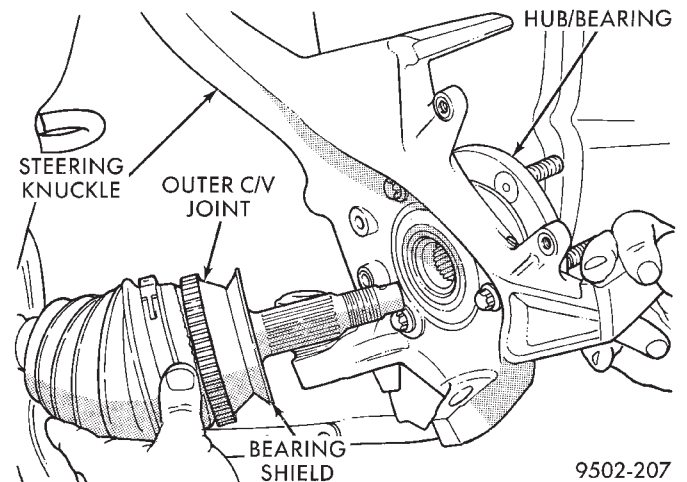

Fig. 15 Steering Knuckle Installation on Outer C/V Joint
(6) Slide driveshaft back into front hub (Fig. 15). Then install steering knuckle onto the lower control arm ball joint stud.